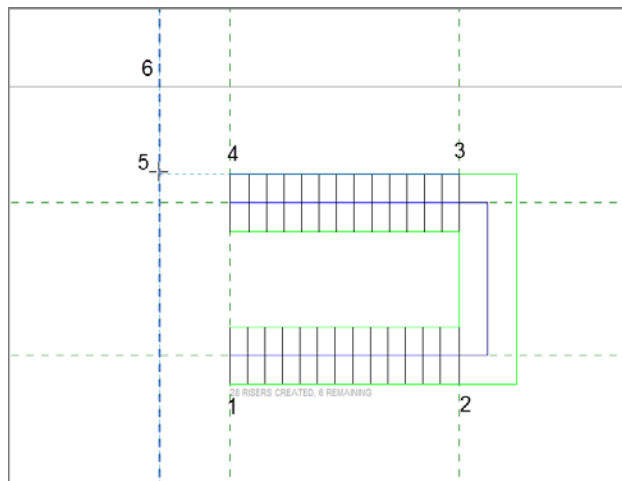

FIGURE 10.67: The stairs in place
7. Verify that your plan looks like Figure 10.67.